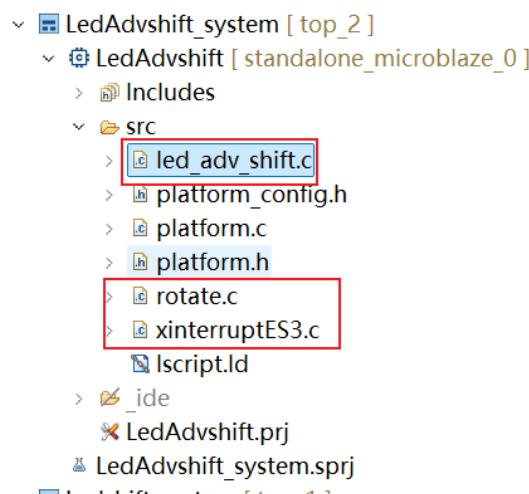

Figure 19.
1. As shown in Figure 19, in order to control the speed of led shifting, a **rotate function** has been written for you (see **rotate.c** in the Lab3 – Codes folder). There are two functions in this file. Use the **rotateLeft()** function. Try and see if you can explain how these functions work.